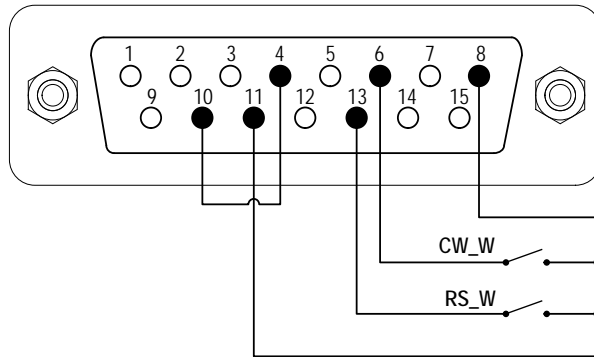

Figure 23. Logic Level 2 Control with Internal 12V Power Source
- 1) Turn off the power. Connect the DB15 connector to the DB15 port on the rear of the pump, following the wiring instructions shown in Figure 23 or Figure 24.